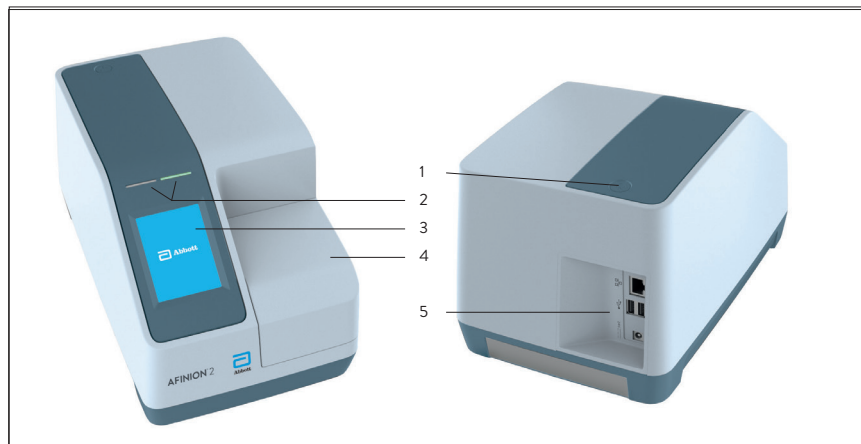

Figure 1
Figure 1 shows the main exterior parts of the Afinion 2 Analyzer.
- 1 Switch on the analyzer by pressing the ON/OFF button (Figure 1). An automatic start-up procedure will be initiated. Please wait. Do not open the lid manually.
Switch off the analyzer by pressing the ON/OFF button (Figure 1). The analyzer should be switched off after the end of a working day.